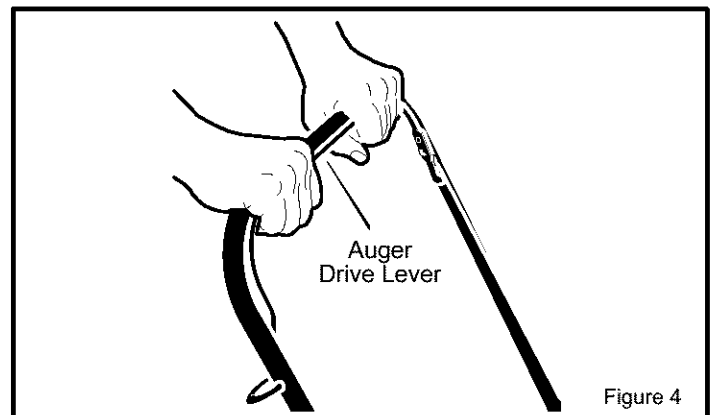

Figure 4
1. To stop throwing snow, release the **auger drive lever**. (See Figure 4).
1. Engage the **auger drive lever**. (See Figure 4).
3. Hold the **auger drive lever** against the **handle** (See Figure 4). The auger will begin rotating.